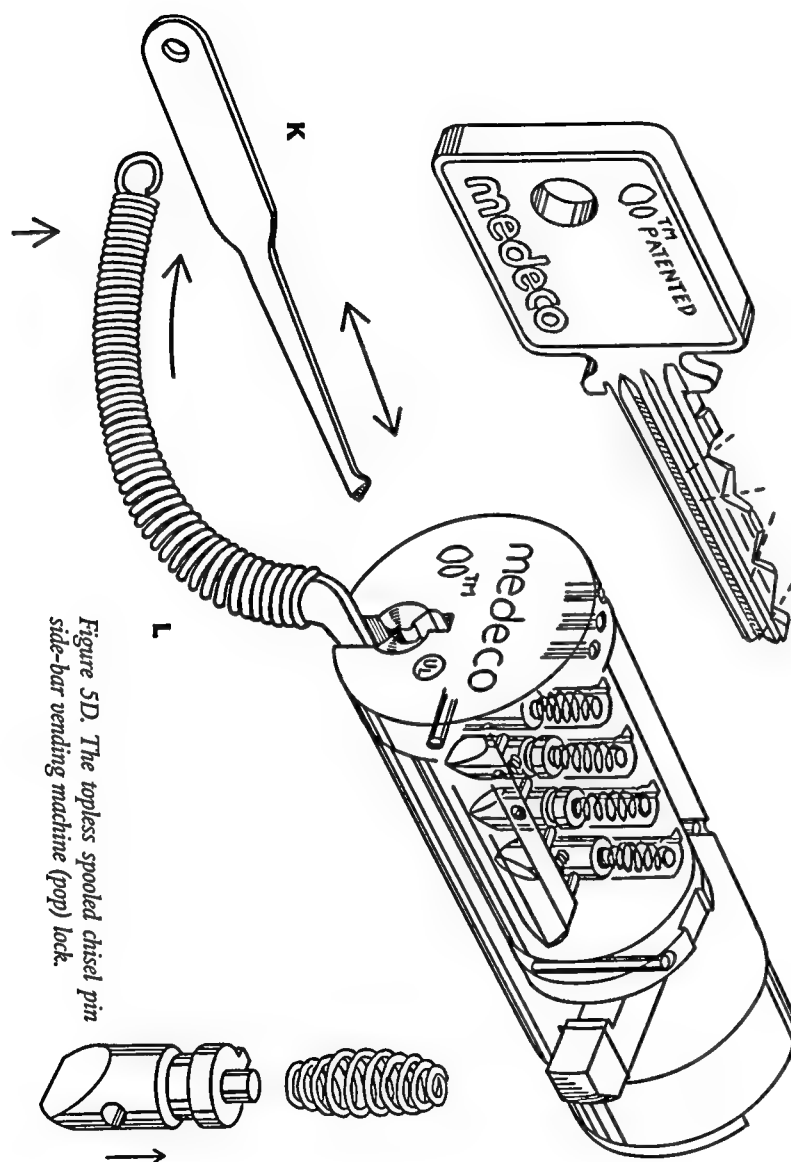

Figure 5D. The topless spooled chisel pin side-bar wending machine (pop) lock.
4. *Secrets of Lock Picking*, Paladin Press, p. 9, figure 5D. Further research on my part has revealed that this tool is no longer available in locksmith's supply chains. Please see Chapter 1 for details in making this tool.